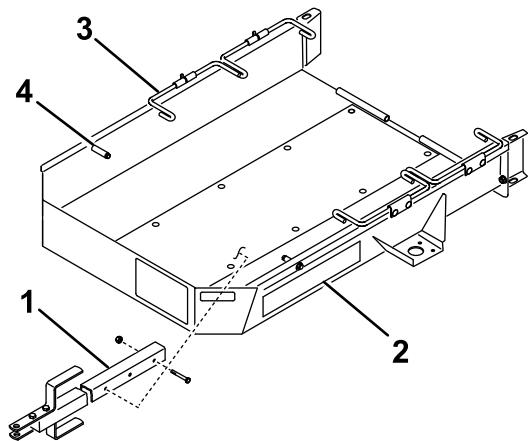

Figure 2
4. Mount the tongue assembly to the mounting bracket on the underside of the trailer bed with 2 bolts (3/8 x 2-3/4 inches) and 2 locknuts (Figure 2).
4. Move the throttle to the slowest position and **slowly** drive the machine onto the trailer until the transport wheels contact the trailer stops (Figure 2).
6. Pivot the first set of wheel rods downward behind the transport wheels (Figure 2).